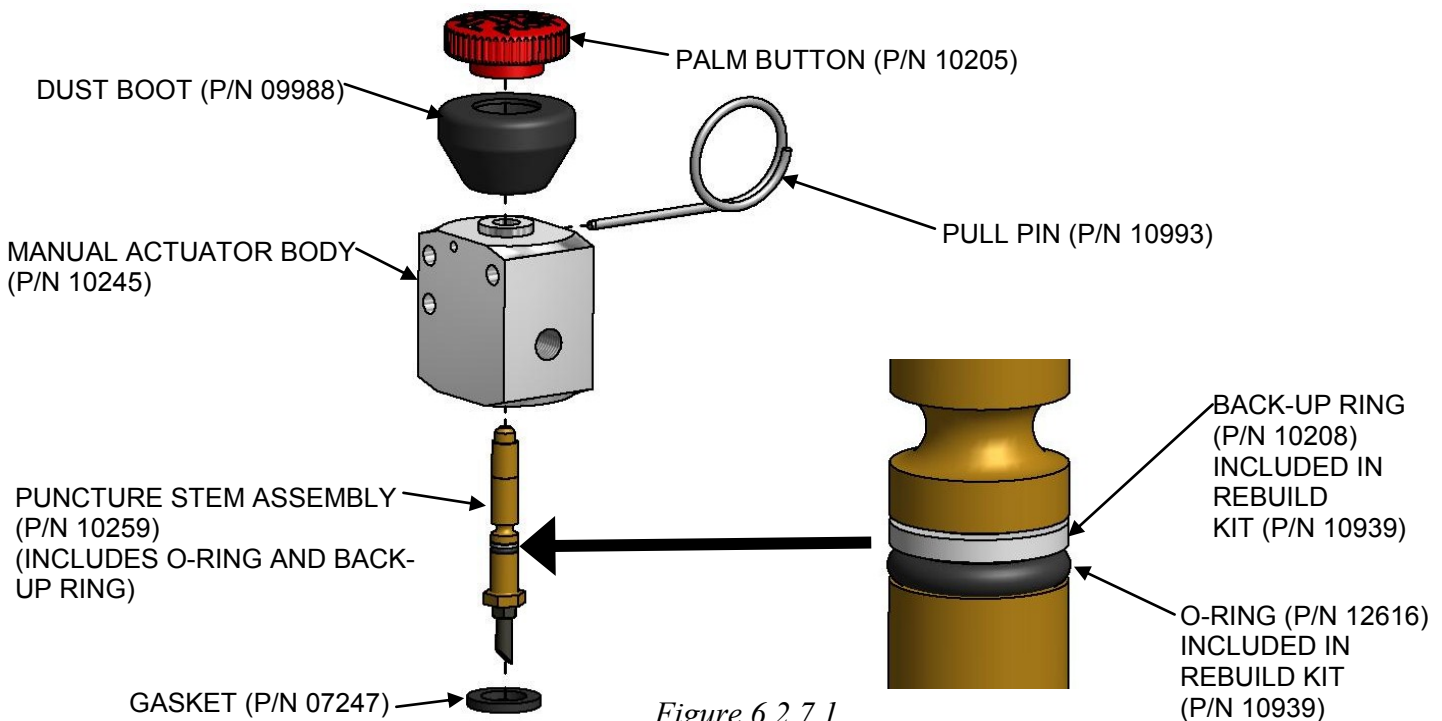

Figure 6.2.7.1
Actuator Reassembly (See Figure 6.2.7.1):
6.2.7.2 For Systems Using Electric Nitrogen Actuator (P/N 20775)**Actuator Disassembly (See Figure 6.2.7.2):**